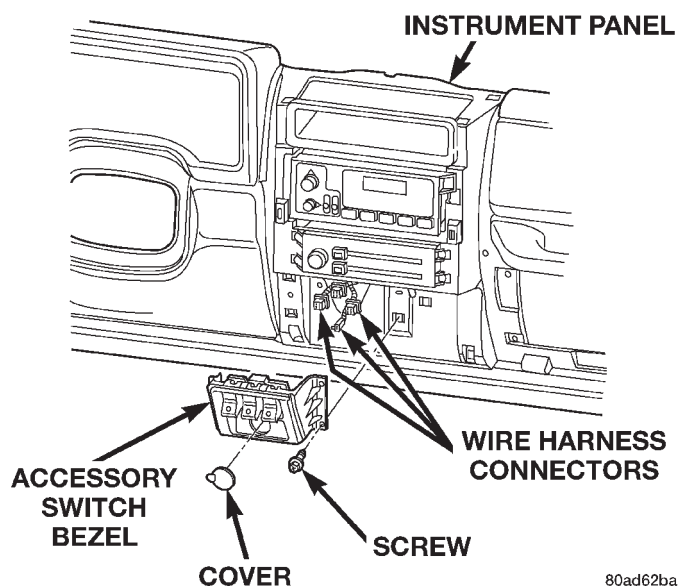

Fig. 5 Accessory Switch Bezel Remove/Install
(1) Disconnect and isolate the battery negative cable.
(2) Remove the center bezel from the instrument panel. See Instrument Panel Center Bezel in Group 8E - Instrument Panel Systems for the procedures.
(3) Remove the four screws that secure the accessory switch bezel to the instrument panel (Fig. 5).